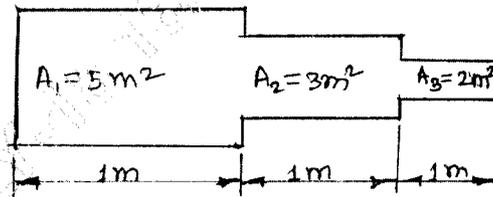

Fig.Q8(b)
- b. For the smooth pipe of variable c/s shown in Fig.Q8(b). Determine the potential at the junction the velocities in each section of pipe and the volumetric flow rate. The potential at the left end is  $P_1 = 12 \text{ m}^2/\text{S}$  and that at right end is  $P_4 = 3 \text{ m}^2/\text{S}$ . Take  $K_x = 1$ . (10 Marks)